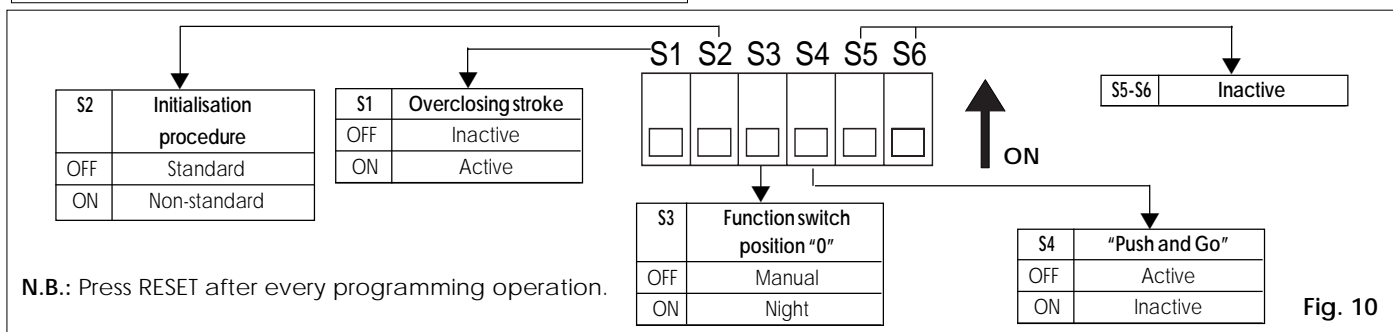

Fig. 10
- 4) Check that the programming unit microswitches (fig. 10) are all in the **OFF** position.
5.3. PROGRAMMING THE MICROSWITCHES (fig. 10)
The programming unit has a series of microswitches which allow the functions shown in fig. 10 to be selected.